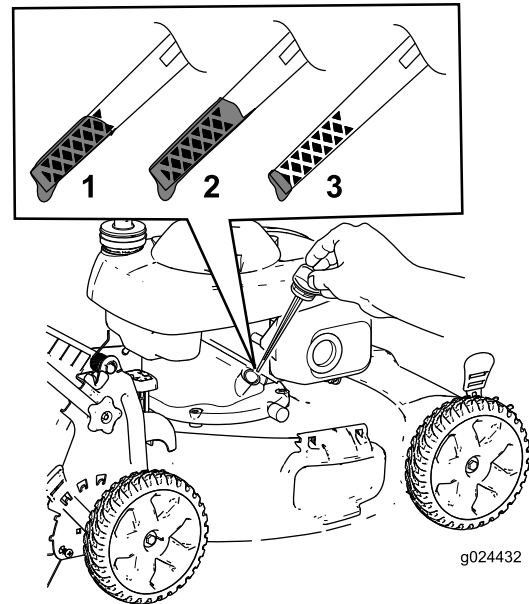

Figure 29
3. Remove the dipstick (Figure 29).
10. Read the oil level on the dipstick (Figure 29).